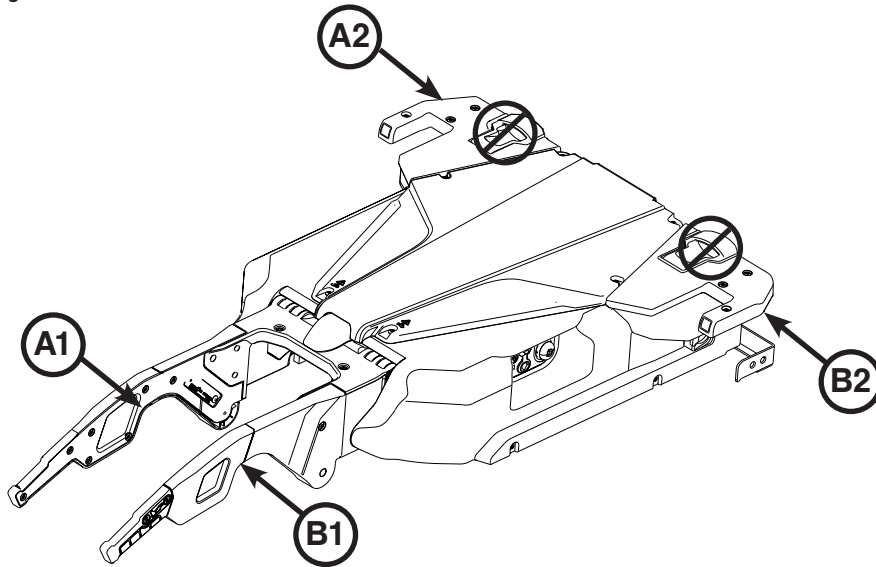

Figure 21: Trolley Assembly
- Carefully lift the trolley assembly by its arm and wing. Do not lift the trolley by the manual cot release handles. Lift only where indicated. Installer 1, position hands at A1 and A2. Installer 2, position hands at B1 and B2 as shown in Figure 21.